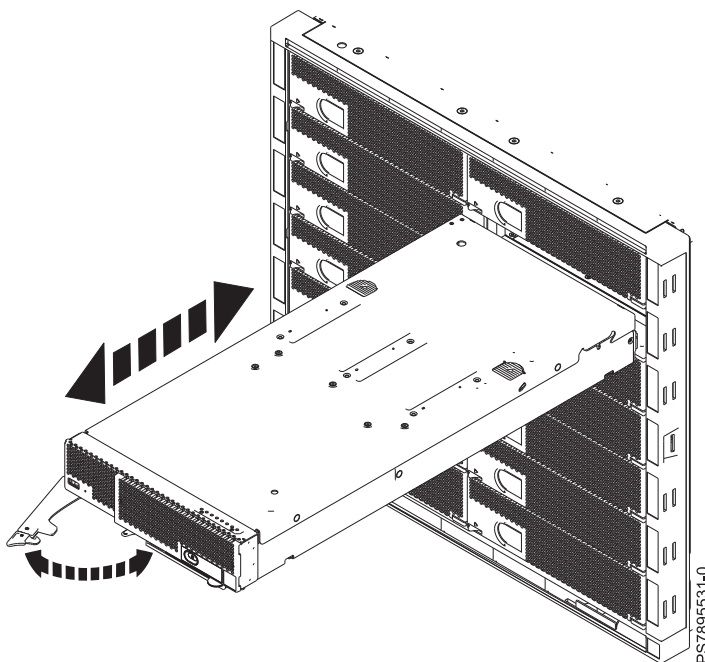

Figure 32. Installing the compute node in an IBM Flex System Enterprise Chassis
5. Verify that the release handles on the compute node are in the open position (perpendicular to the compute node, as shown in Figure 32 on page 76). There is one release handle.